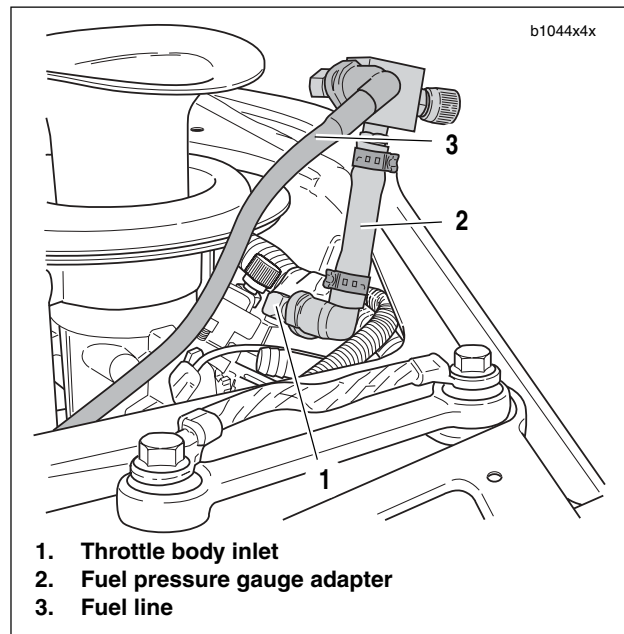

Figure 4-27. Fuel Pressure Gauge Adapter
4. See Figure 4-27. Attach FUEL PRESSURE GAUGE ADAPTER (Part No. B-45522) (2) to throttle body inlet (1).
5. Connect the fuel line (3) to fuel pressure gauge adapter.